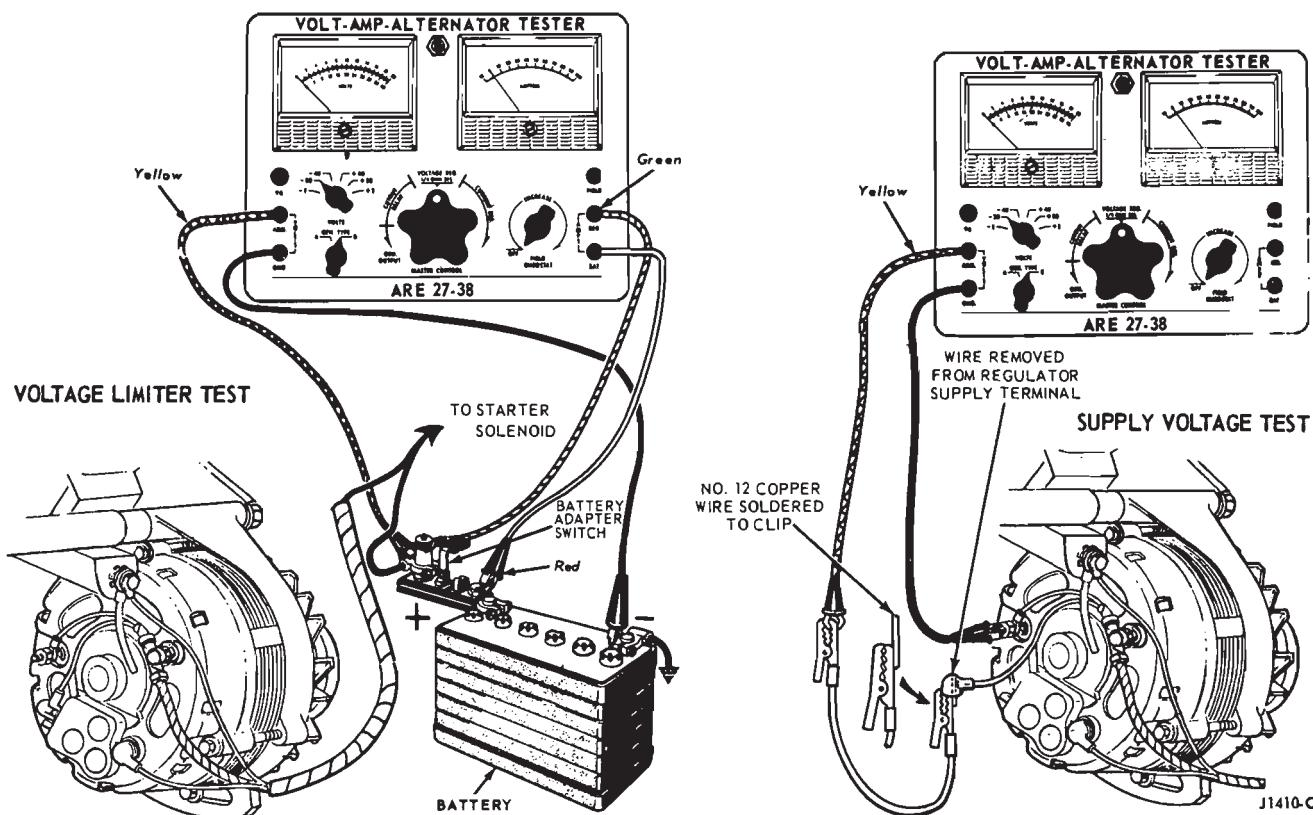

FIG. 3—Integral Regulator Tests
1. Connect a 12-volt test light or voltmeter between the regulator supply lead and ground (Fig. 3 Supply Voltage Test). Turn the ignition switch to ON. The test light should glow or the voltmeter should show voltage.